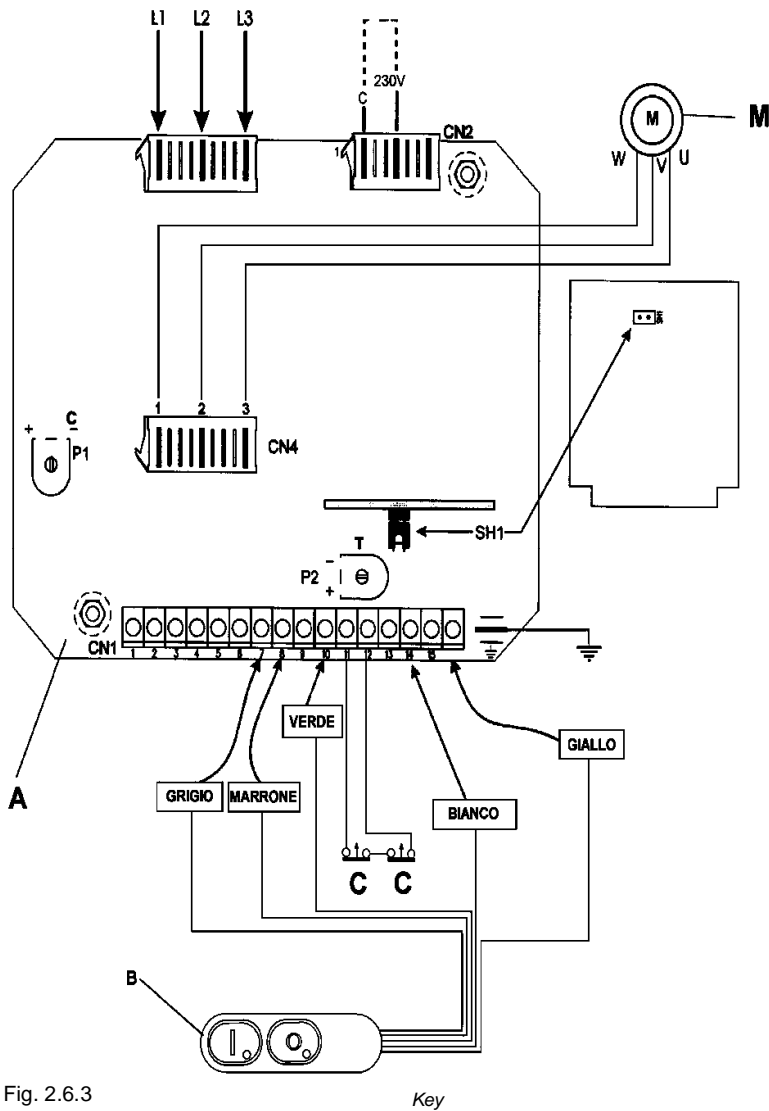

Fig. 2.6.3
2.6.3 Three-phases wiring diagram at 230 V (fig. 2.6.3)